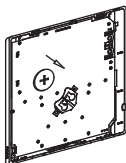

Fig 3-7
- Place the battery in the unit and ensure the positive side of the battery is in accordance with the polarity markings.(See Fig.3-7)